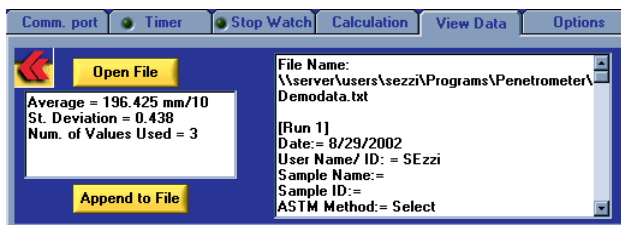

Figure 7: View Data Tab
7. **View Data Tab.** This tab, shown in Figure 7, provides a quick way to view the contents of a series of test results in a file as well as to determine the average and standard deviation of the entire set of results in that file. Click on the "Append to File" button to add these calculations to the data file.